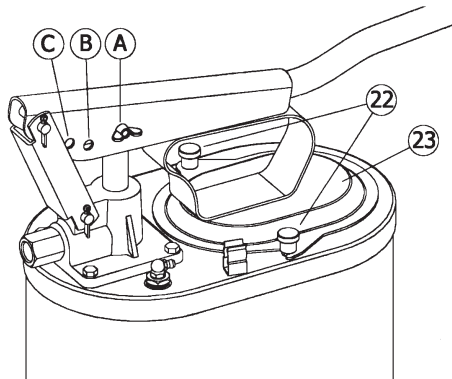

Fig. 2
1. To fill the container, lift up the lever and loosen the knurled screws (23) and slide aside the cover (24) (fig. 2).